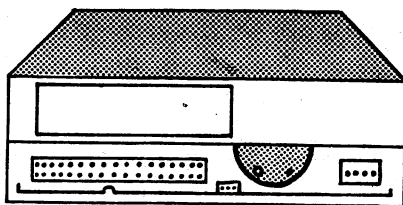

Figure 2 P J3 Jumper
Installing the *AIR* 2010 internal drive into an Amiga 2000 requires several steps, but is relatively easy if you follow these instructions carefully. As you complete the steps, refer to Figures 2 and 3 on page 6 for examples. Note that the *AIR* 2010 internal drive *may not* be installed in an Amiga 500 or Amiga 1000.
Step 3A: Make sure the drive select jumper (PJ3) on the back of the *AIR* drive is set to drive 1. To do this, place the jumper over the leftmost (when viewing from the rear of the drive) two pins. See figure 2.
AIR drive is set to drive 0. To do this, place the jumper over the rightmost (when viewing from the rear of the drive) two pins. See figure 2.